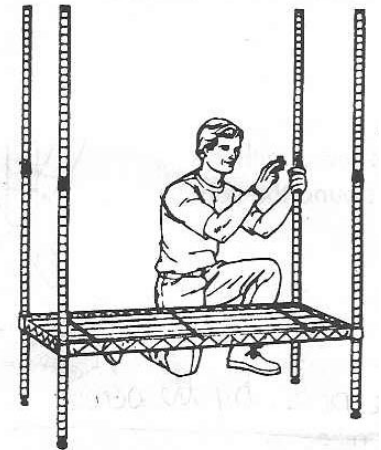

Figure 4
4. Select the placement of your next shelf by counting up the grooves to the desired height. Snap on other clips and repeat for each tube (as in **Figure 4**). NOTE: The shelf will not set properly if all the clips are not at the same level.